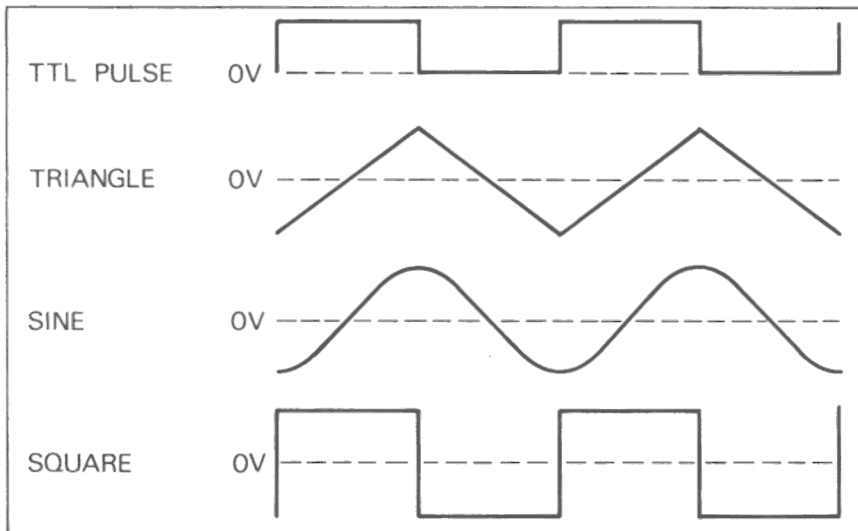

Fig. 3. Output waveform and phase relationships.
2. Select the frequency range desired by depressing the appropriate **RANGE** switch. The frequency range obtained as the **FREQUENCY** dial (6) is varied will be from one-tenth the indicated **RANGE** value to 10 times this value. For example, select the 10 K range. When the **FREQUENCY** dial is at .1, the output frequency is 1 KHz; when at 1, it is 10 KHz and when at 10 the frequency is 100 KHz. The frequency obtained applies to the signal at the **TTL** jack as well as the **600Ω OUTPUT** jack.
3. Select the waveform desired by depressing the appropriate **FUNCTION** button. The phase relationships of the waveforms available are shown in Fig. 3.
4. The amplitude of the selected output signal at the **600Ω OUTPUT** jack is adjusted by **AMPLITUDE** control (4). The **TTL** output is not affected by the **AMPLITUDE** control.